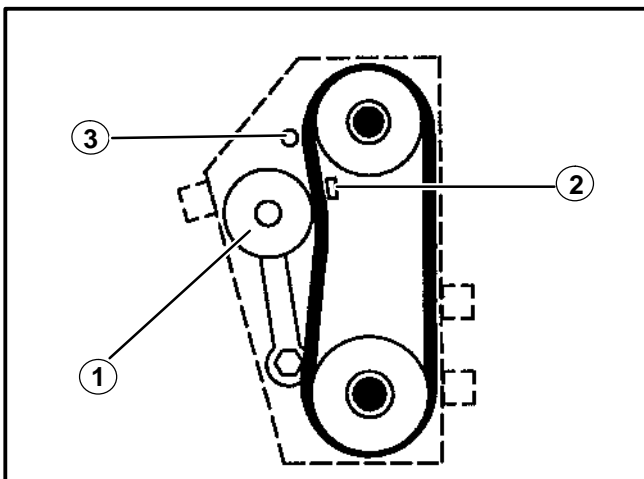

FIGURE 9
2. Place the new belts between the idler pulley and the snubber on the idler arm and then over the engine and reel pulleys. See Figure 9.
3. Install the belt guards. Make sure the belt stop rod is outside of the belt. See Figure 9.